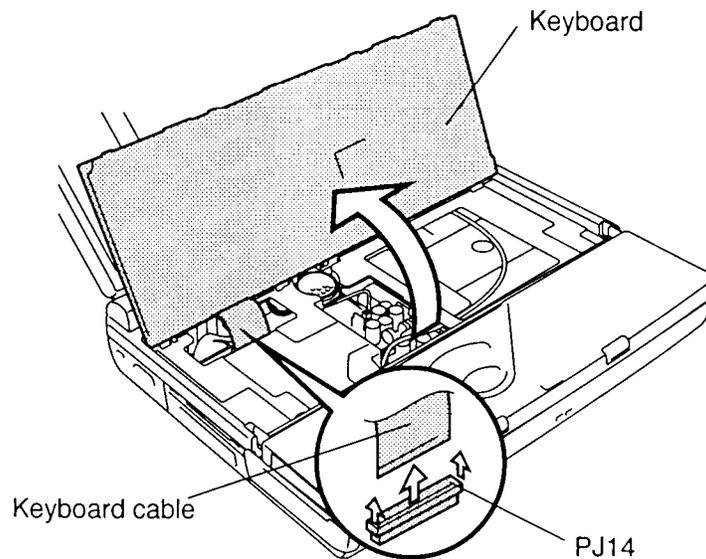

Figure 4-11 Removing the keyboard
4. Carefully lift the **keyboard** to expose the **keyboard connector** (figure 4-11).
5. Disconnect the **keyboard cable** from the **pressure-plate connector (PJ14)** on the system board (figure 4-11).
1. Connect the **keyboard cable** to the **pressure plate connector (PJ14)** on the system board (figure 4-11).
2. Replace the **keyboard**. Fit notches on the back of the keyboard into corresponding holes on the computer and lay the keyboard in place (figure 4-11).